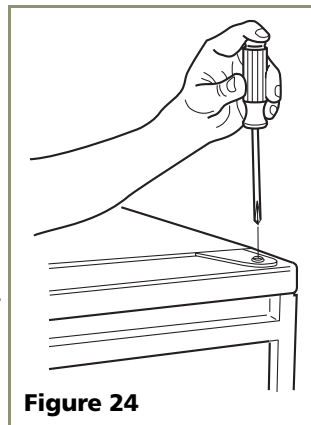

Figure 24
1. Remove top hinge screw pin (Phillips screwdriver, see **Figure 24**). Remove door by tilting forward and lifting off bottom hinge pin.